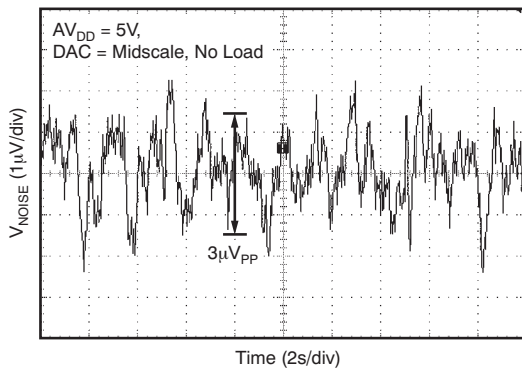

Figure 24. DAC Output Noise, 0.1-Hz to 10-Hz Bandwidth
(5) For more details, see Figure 24.
(6) Specified by design and characterization, not production tested.